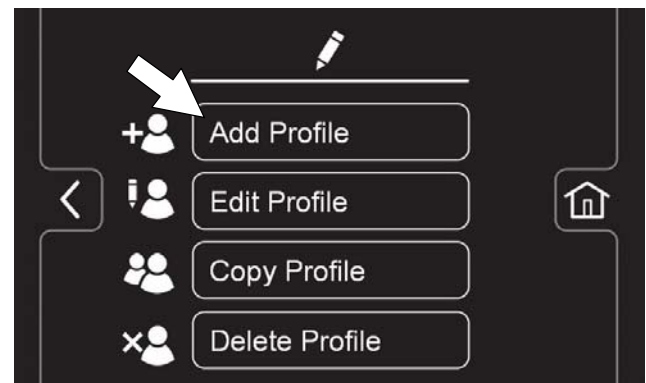

FIG. 170
- Press the Add Profile button to add a new user profile (Figure 170).